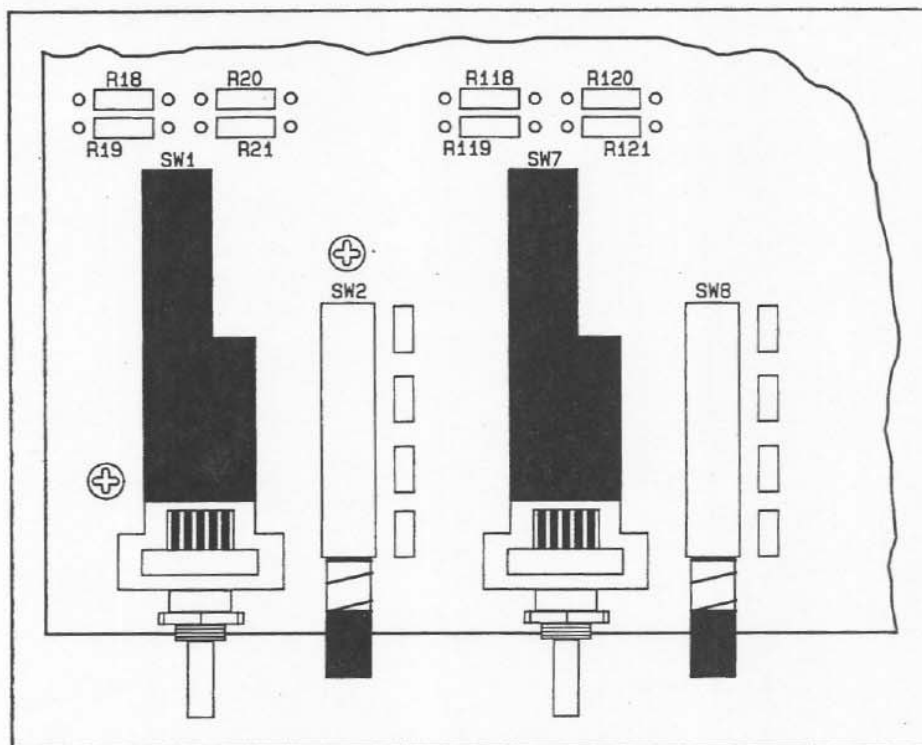

Figure 11. Location of optional fixed frequency resistors.
This modification is performed by adding four resistors to each crossover circuit. The resistor locations are designated by R18, R19, R20, R21 in Channel 1 and R118, R119, R120, R121 in Channel 2. These resistor locations are shown in Figure 11.
3. Find the resistor locations R18 - R21 and/or R118 - R121. Refer to Figure 11.